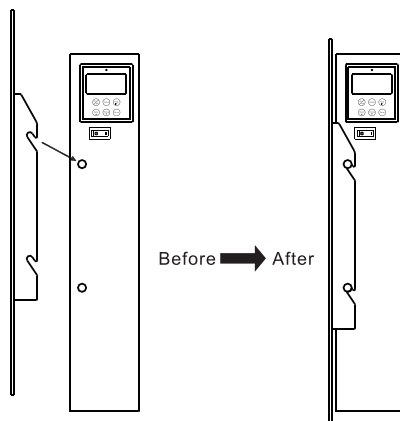

Figure 3, left before and right after.
1. Carefully hang the glass front to the hooks on the sides of the fire. See Figure 3.